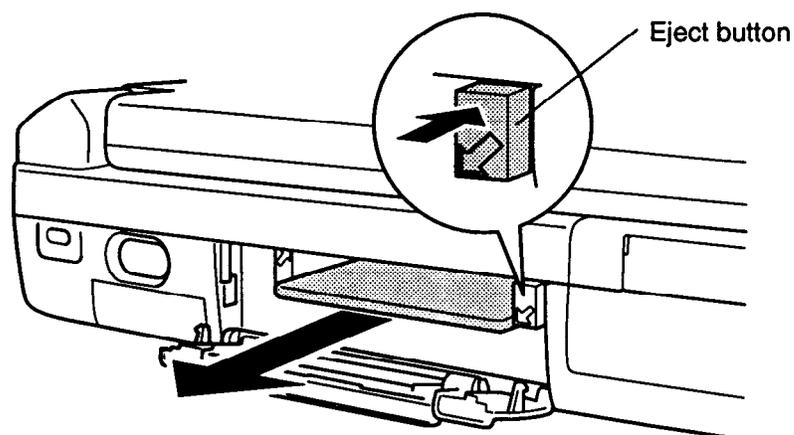

Figure 4-8 Removing the PCMCIA card
4. Press the **eject button** to pop the card out slightly and remove it (Figure 4-8).